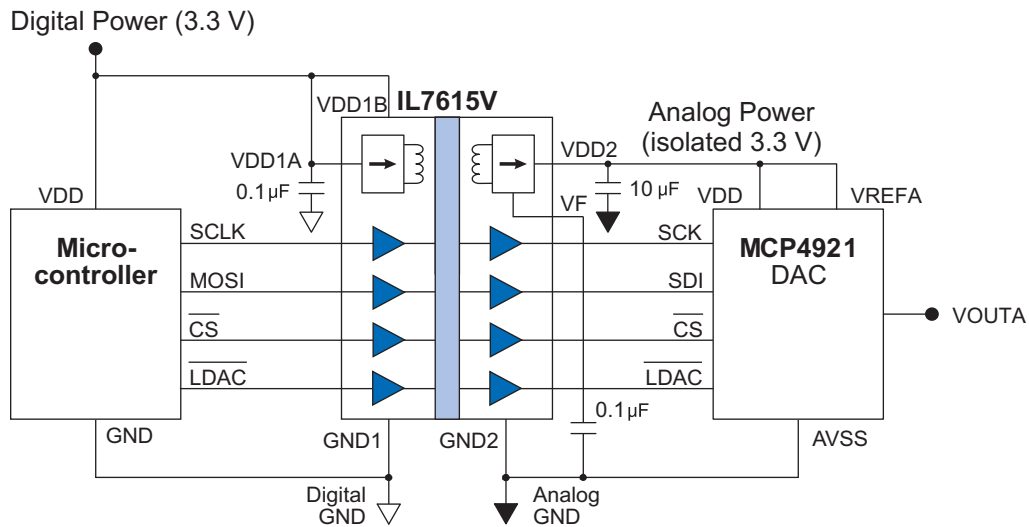

Figure 15. Isolated four-channel DAC interface.
- Added IL7615V / DAC application circuit (Figure 15).